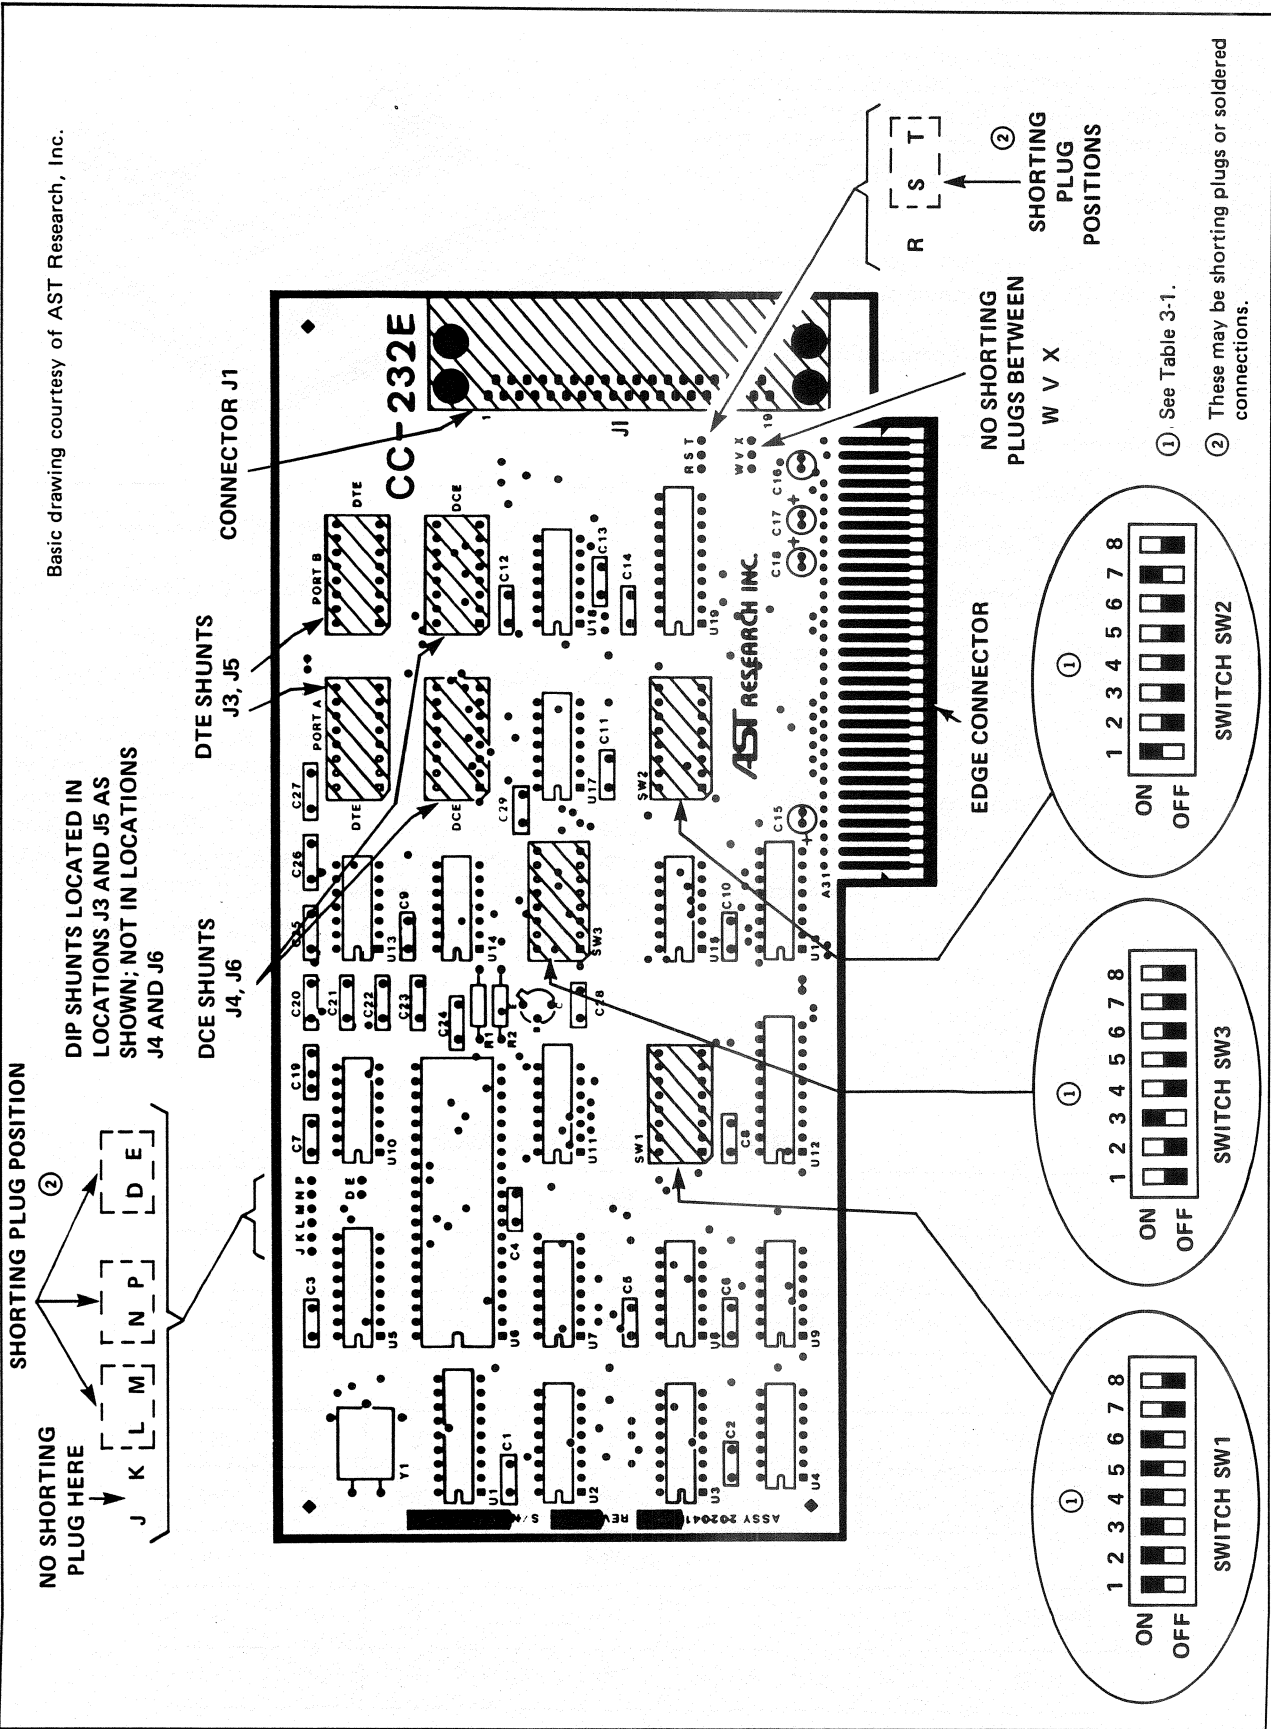

Figure 3-6. Advanced Communication Board Setup
The recommended Advanced Communication Board is "programmable." Therefore, it must be set up before actual installation, assuming it is purchased separately, and not supplied by Westinghouse in a computer. Refer to Figure 3-6 and locate SW1 thru SW3. Then follow these procedures:
**Step 3** — Verify there is not a shorting plug between positions J and K. (See Figure 3-6.)